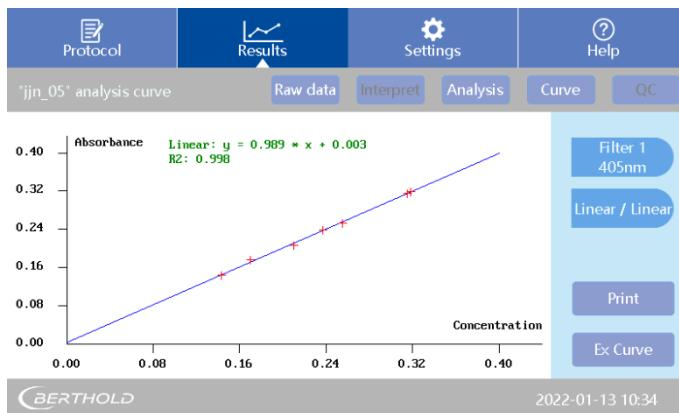

Fig 40: Curve fitting
- Click <Curve> to view the curve of the concentration value vs. absorbance reading value. Fig 40 shows a curve fitting with linear scale for absorbance on the y-axis and linear scale for concentration on the x-axis (Linear/Linear).